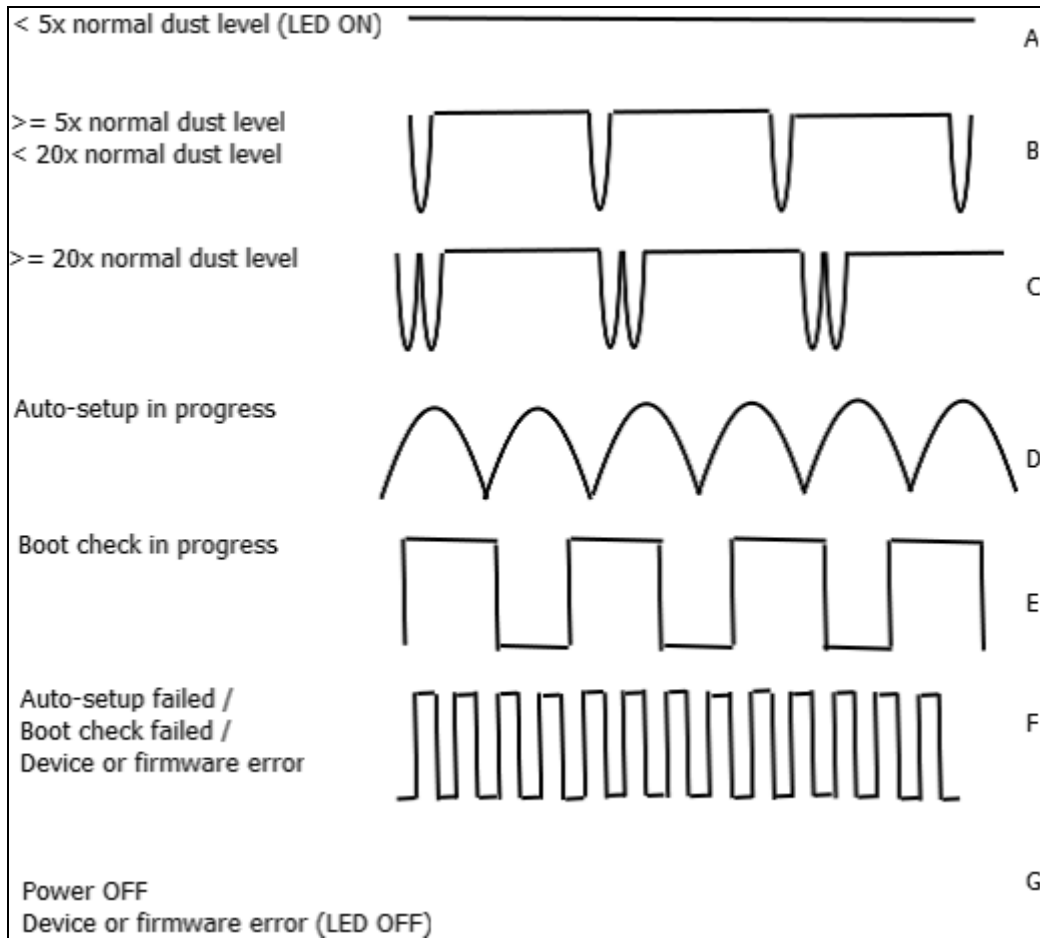

Figure 9 Description of Snifter mA+ cover illumination sequences.
- 1.1 by connecting the automatic setup signal (green wire) to the V+ signal (wire) for a period of 1 second. The automatic setup will initiate and the front panel light will start to blink slowly (sequence D in Figure 9 Description of Snifter mA+ cover illumination sequences.).